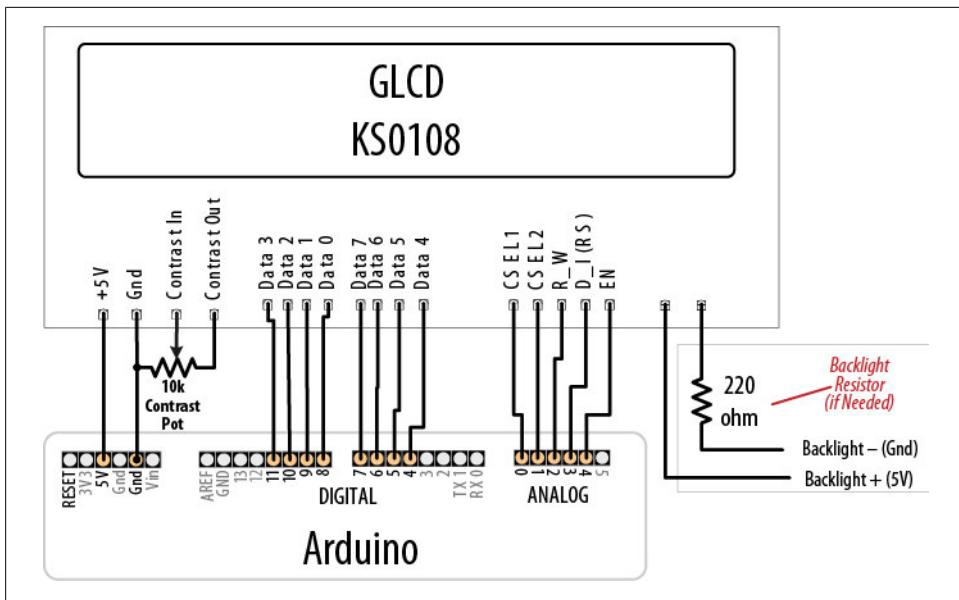

Figure 11-7. GLCD wiring for type “A” panels; check your data sheet for pinout
**Table 11-2** indicates the default connections from a KS0108 panel to an Arduino (or Mega). You will need to check the documentation for your particular panel to find where each function is connected on your display. The table shows the three most common panel layouts: the first, labeled “Panel A” in the table, is the one illustrated in Figure 11-7. The documentation with the GLCD library download includes color wiring diagrams for the more common displays.